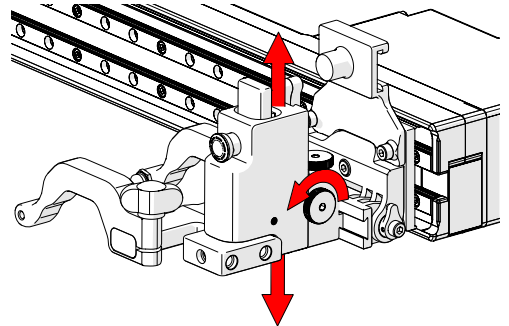

Fig. 155 - Vertical adjustment
2. The vertical adjustment knob (*Fig. 155*) allows the heavy duty vertical probe holder's height adjustment. This adjustment also controls the probe holder's spring tension.